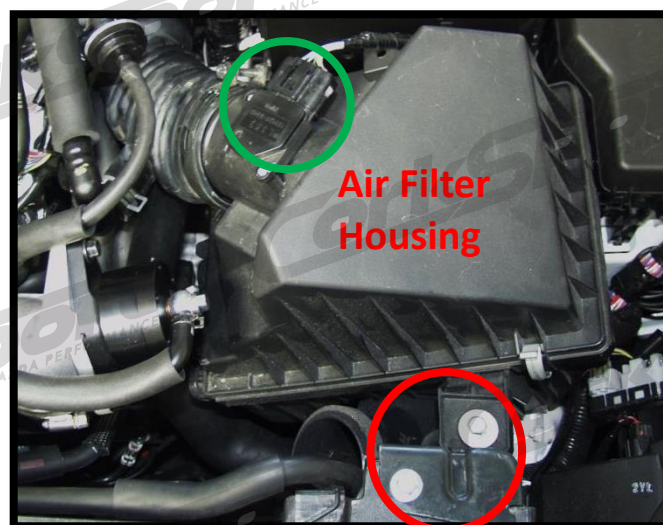

Figure 2c
- c) Unplug the MAF housing sensor located on the air filter housing (Figure 2c).
- d) Remove the two 10mm bolts on the air filter housing bracket and remove the bracket (Figure 2c).
- i) **Replace the filter housing and plug in the MAF housing sensor**(green circle in Figure 2c).
- j) **Replace the two 10mm bolts** on the air filter housing bracket (shown in red circle in Figure 2c).
- c) Unplug the MAF housing sensor located on the air filter housing (green circle in Figure 2c).
- d) Remove the two 10mm bolts on the air filter housing bracket and remove the bracket (shown in red circle in Figure 2c).
- p) **Replace the two 10mm bolts** on the air filter housing bracket (shown in red circle in Figure 2c).
- q) **Plug in the MAF housing sensor** located on the air filter housing (green circle in Figure 2c).